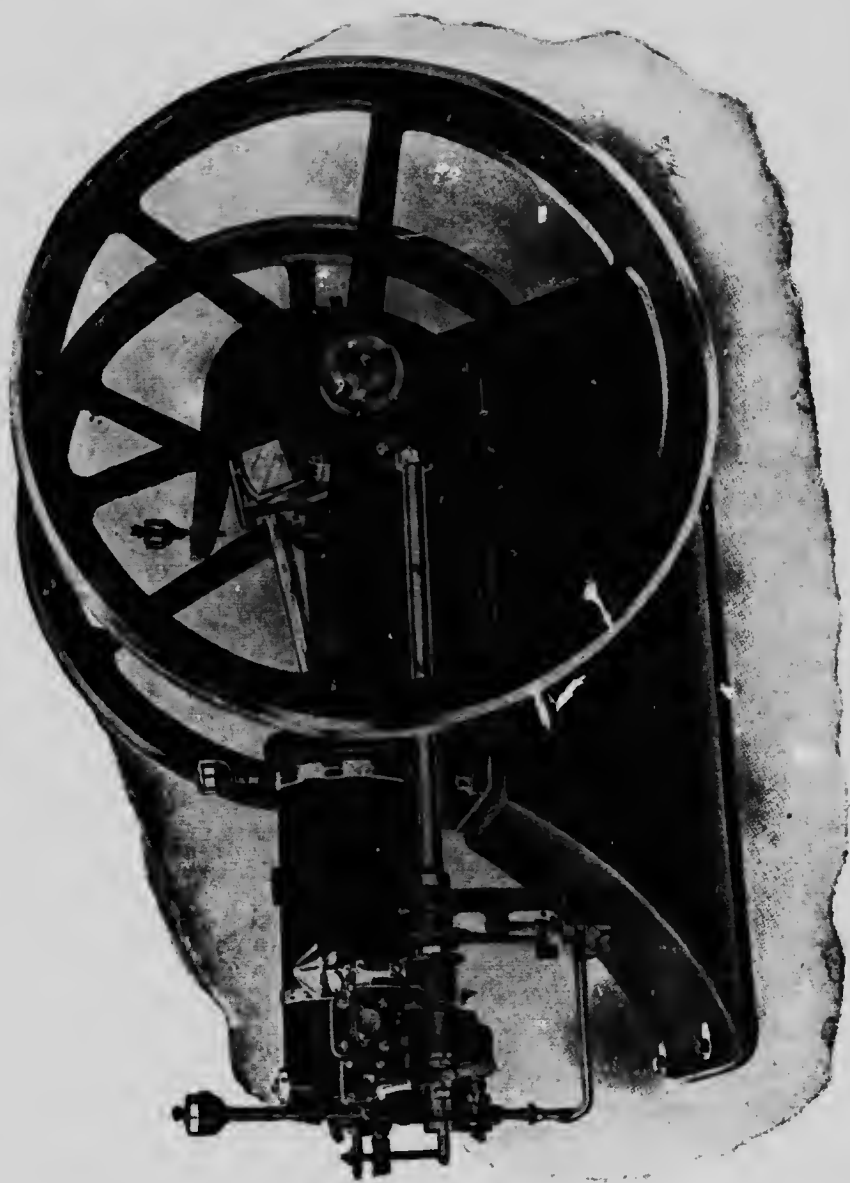
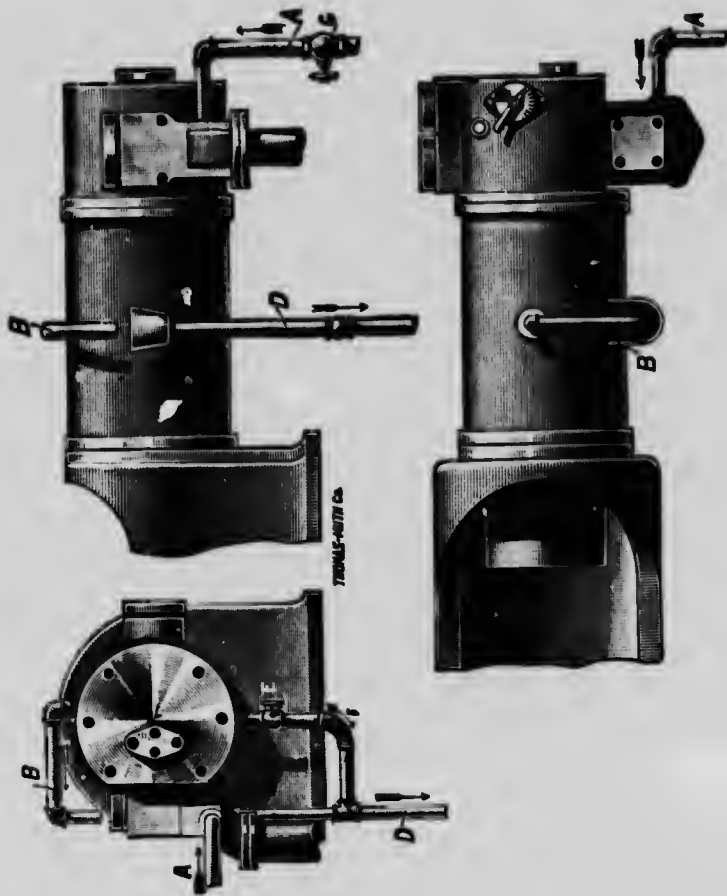
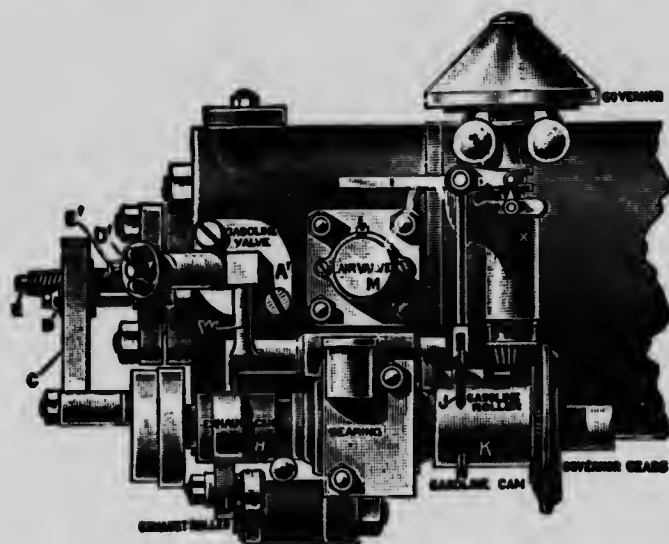
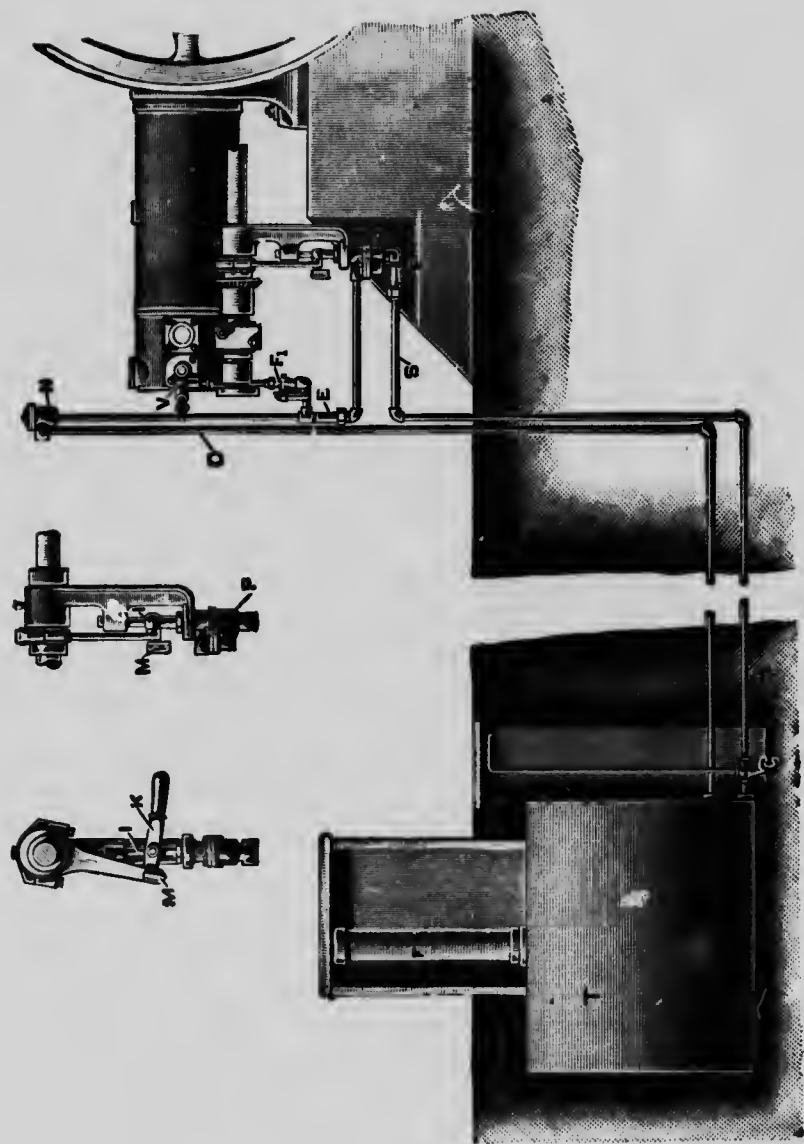

FIG. 48.
FIG. 54.
FIG. 55.
FIG. 56.
Now turn to page 194 and look at figure 48. This will give you a very good idea of a stationary gasoline engine of a good, modern design. It looks very much like a steam engine without the boiler.
You have often seen a steam engine shut down. When the steam is shut off, the engine makes only a few revolutions and then stops. Now watch a gasoline engine, and you will notice that it runs very much longer. If you take another look at our figure 48 you will notice that it
Our first cut (see Fig. 48) represents one of the "Otto Gas Engine Works" machines. We have selected this as a typical stationary engine and will describe it in all details, as completely as possible.
*Cylinder.*—At first sight this important part looks exactly like the steam cylinder, but by closer inspection you soon discover differences. Note on our figure 48 that the top of the cylinder has an opening; or you may turn to page 201 and look at figure 54 and note the pipes B, A, and D. You will see that A is the inlet, B the outlet, and D the waste pipe for cooling water. From this you conclude that what at first you regarded as the cylinder is in reality only the outside shell, and that between the real cylinder and this shell is a space intended for cooling the cylinder when the engine is running. The cuts, figures 51, 52, and 53, give you a very good idea how this important part of an internal combustion engine is made.
Stationary engines are generally supplied with water under pressure from some water system. In this case the water enters at a point marked A (see Fig. 54) close to the
Once more, we note on figure 48 a long side shaft ex-
*Governor.*—The first purpose of this side shaft is to drive the governor. To accomplish this, a bevel gear wheel is securely keyed on it. (See Fig. 55.) This wheel engages with a small pinion which drives the governor shaft. The governor balls move out in accordance with the speed, just as in a governor on a steam engine. Instead of operating a valve rod directly, the governor moves a little wheel or gasoline roller, J, from one side to the other by means of an angle lever, I and D, provided with a forked end.
*Fuel.*—Different kinds of fuels must be supplied in different ways. If gas is used, it is only necessary to pipe it to the engine. The precaution is generally taken to introduce in the pipe line a rubber bag, or some other device which will act as a reservoir. There is no need of any special devices to furnish the gas except to see that the pipe is large enough. If gasoline is used the case is different. For the sake of safety, the gasoline supply is generally located outside the building and on a lower level than the engine. It must therefore be pumped up when needed. For this reason (see Fig. 56) the engine is provided with a small plunger pump P, which is so arranged that it takes the gasoline from tank T through pipe S and forces it up to the overflow cup N. From this cup flows such gasoline as is not used back to the tank T through the overflow pipe O. The pump P is operated, when the engine is running, by the eccentric mounted on the side shaft and secured to the pump plunger I by the wing stud M.
The main valve controlling all the supply of gasoline to the engine is located on the supply pipe a little under the cylinder head and is marked F1 on figure 56. This valve is generally of the old pieval type and has a tendency to leak. A little emery and oil can easily make it tight. A leaky valve is not a good recommendation for the engineer, and besides it is dangerous; therefore see that it is tight.
plays over a graduated scale, so that the position of the valve can be located. The other end of the handle carries a small electric switch, and plays over a contact piece fastened on an insulated support. This contact piece has a binding-post on one end, and to this one of the battery wires is connected. When the valve is opened the small electric switch on the handle makes contact with the contact piece. When the valve is closed, the contact is broken. After passing this valve, the gasoline flows through a small pipe to another valve marked V on figure 56. This last valve is of the needle type with a fine thread on the regulating stem, so that the amount of gasoline can be regulated very accurately. It is adjusted in the shop and ought not to be changed except by a man who knows his business. After the position is determined a mark ought to be made on handle D (see Fig. 55) opposite the little rod E so that it can be moved back to the right position in case it should have been disturbed. It is a good rule not to move this valve at all. The engine is very sensitive, for too much or too little gasoline and one-half a turn on this valve may bring it out of adjustment. If on your engine there is no mark, make one at once, so that you can see if anybody has meddled with it or not.
by the governor. (See Fig. 55.) A spring secured to the exhaust lever stud keeps this valve always shut, except when the small gasoline roller J runs over the cam K. (See Figs. 55 and 57.)
cam H. (See Fig. 55.) The same spring which keeps the exhaust valve shut also keeps the roller tight against the cam H. You can see from the cut the action of the cam H on the exhaust lever. Every time the cam H passes over the small roller on the end of the lever the spring under the exhaust valve is compressed and the valve opens. This valve is always hot, and I advise you not to use oil on any part of it. The oil will only make the valve stick harder. If it does not work properly, take it out and clean it with coal oil and put it back again. If it shows any bright spots, rub them with fine emery cloth.
The cam H on the side shaft is put on a loose sleeve which can be moved by a small hand lever along the side shaft. If you look carefully at figure 48 you can see this lever with the handle just under the gasoline valve. As shown in the picture, the handle is in position for starting the engine. On figure 55 it has been removed in order to show the exhaust valve clearly. The sleeve carries two cams, and by pulling the lever to the position as in figure 48 a larger cam comes under the roller of the exhaust lever, this making it easier to start. When the engine begins to run, push this lever back towards the fly-wheels as far as it will go and leave it there.
*Air Valve.*—This is placed next to the gasoline valve. (See Fig. 55.) It is like most of the valves of the poppet
the small cover. Sometimes, if the engine has stood long, the pump will not lift the gasoline on account of the air in the pipes. A little gasoline poured into the overflow cup generally starts the pump pumping. You must remember, however, that before you pour in the gasoline you must open the gasoline valve F, see figure 56, a little in order to allow the air in the pipes to escape. Without this no gasoline will reach the pump. Before you start pumping, close it again. As soon as the gasoline has reached the overflow cup, you can stop pumping and must disconnect the pump handle. Connect the plunger on the pump with the eccentric rod so that the pump will be operated by the engine after it is going.
You are now ready to start. Turn on the small electric switch, give the gasoline valve F about a quarter turn, and take hold of the rim of one of the fly-wheels and turn them over as rapidly as you can. Two turns are generally enough and an explosion takes place. Your engine is going. Now open the gasoline valve a little more, push the handle which operates the sleeve on which the exhaust cams are placed, to the front of the engine as far as it will go. Move the little roller supporting the igniter lever in such a position that this lever rests on the largest diameter of the small roller. Turn on the gasoline valve in full. Start the cooling water flowing, by turning on the water valve G, see figure 54, and close the valve E in the drain pipe under the cylinder. When the water is flowing out through the pipe B regulate the stream by the valve G, so that you get about the temperature you want.
moves when the engine moves. If this is all right, the trouble must be inside the pump somewhere. Disconnect the pump plunger from the eccentric rod and connect up the pump for pumping by hand. If after a few strokes you do not get any gasoline, you are sure that the fault is in the pump. In order to be able to examine it, you will now have to take it apart. To do this, disconnect the union between the gasoline valve F, figure 56, and the pump, and also between the pump and the tank. You can now swing the pump out round the side shaft so that you can test it. You will find that in the unions which you have just disconnected are located two small conical sieves, one between the pump and the tank and the other between the pump and the engine. If on examination of the sieves you find many of the small holes in them closed up, take them out and wash them clean in gasoline. Now put them back, and closing the pipe to the tank with one hand working the pump handle, with the other see if you can feel any suction. If you do, that part is all right. Try the same experience on the pressure side of the pump, and if you can feel pressure on the hand closing the pipe you can consider that the pump is all right again and that you have removed the trouble. On the other hand, if any of these experiments do not succeed, you can be reasonably sure that the trouble is with the valves in the pump. A small piece of packing or dirt or something similar has